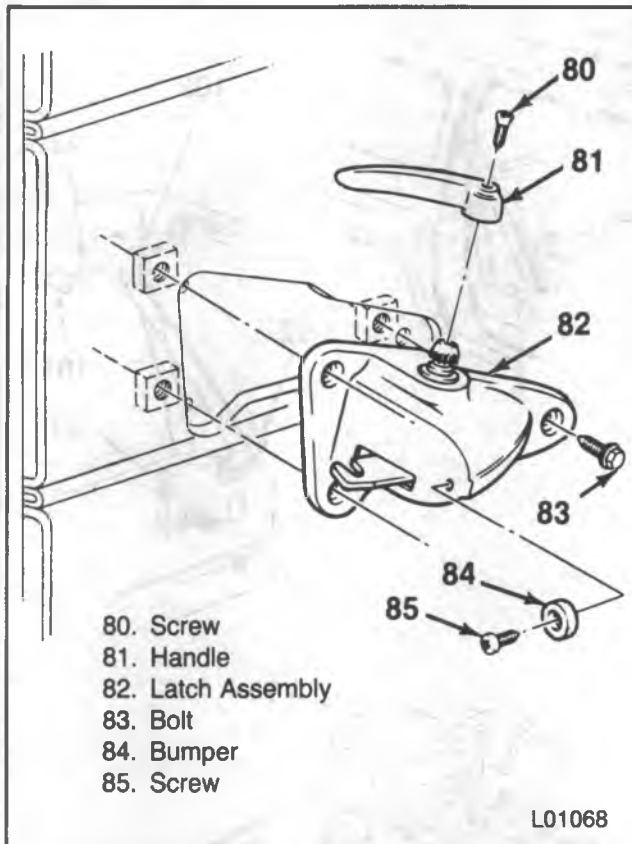

Figure 14 — Center Seatback Latch
- Remove or Disconnect (Figure 14)**
1. Latch bolts (83).
2. Latch (82) from the vehicle.
- Install or Connect (Figure 14)**
1. Latch (82) to the vehicle.
2. Latch bolts (83).